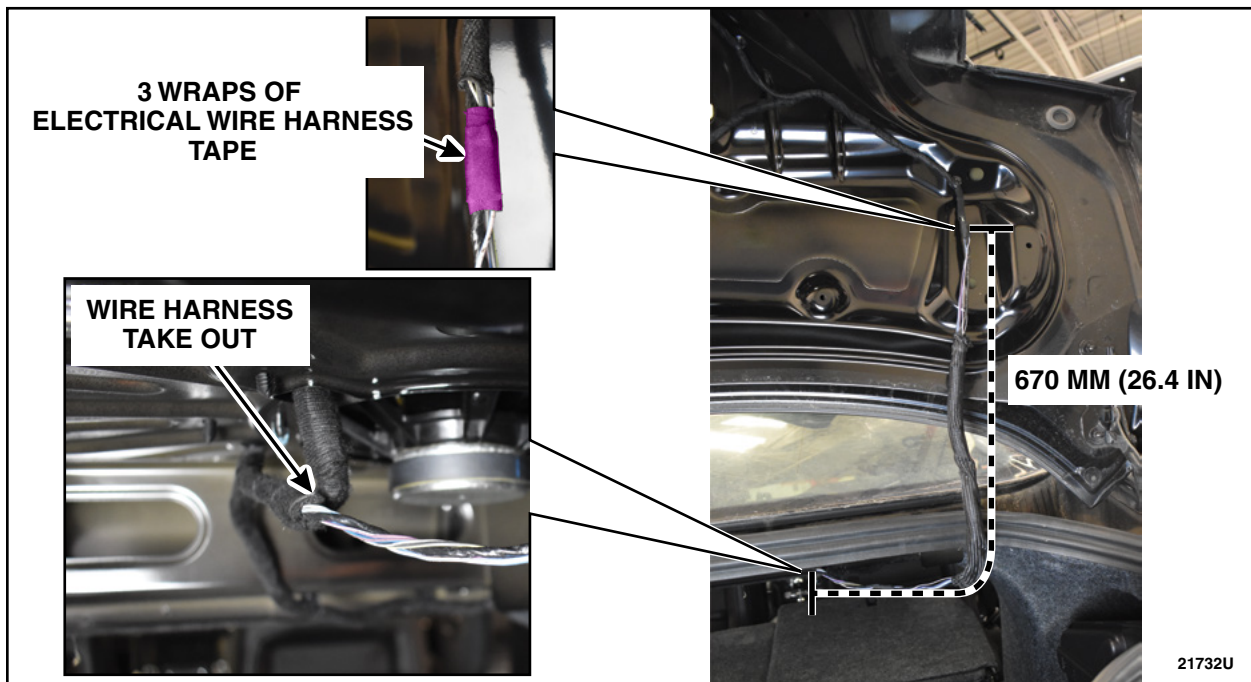

FIGURE 20
29. Measure 670 mm (26.4 in) from the wire harness take out. Apply 3 wraps of Coroplast® 837 or equivalent electrical wire harness tape around the wiring harness. See Figure 20.